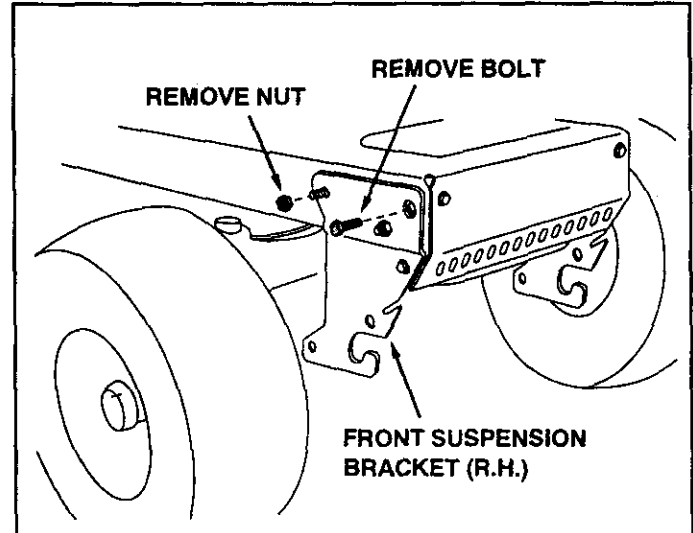

FIGURE 1
- Remove the hex bolt from the threaded hole at the top front corner of R.H. front suspension bracket. Remove the nut from the carriage bolt at the top rear corner of the bracket, leaving the carriage bolt in the tractor frame. See figure 1.